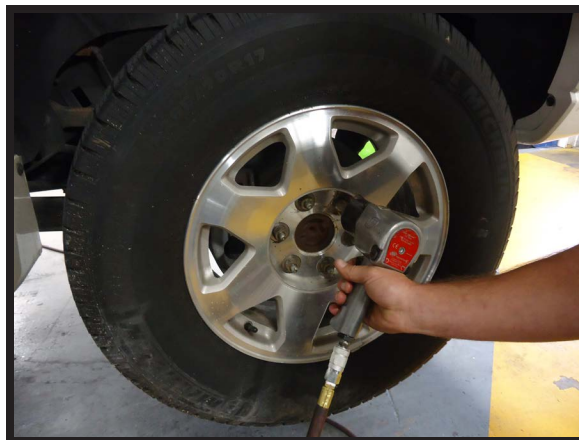

FIGURE 1
2. LIFT VEHICLE AND REMOVE REAR WHEEL. (FIGURE 1)